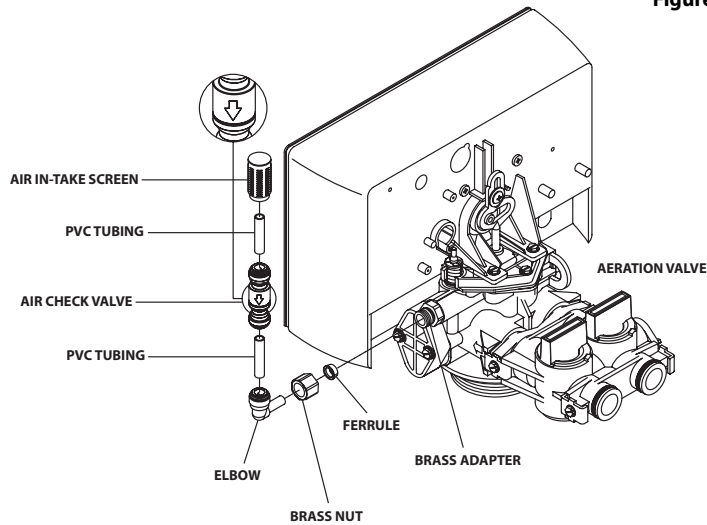

Figure 9\*
- Place the ferrule inside the brass nut and screw the brass nut onto the brass adapter of the aeration valve; inlet side (see Figure 9).
- Assemble the air check valve assembly in this order: elbow, pvc tubing, air check valve with molded arrow pointing down, pvc tubing, and air in-take screen (see Figure 9). After assembly, push the elbow into the brass adapter (see Figure 9).